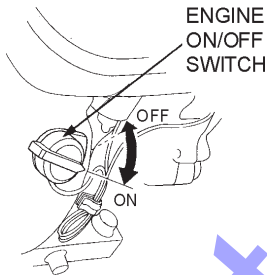

Figure 12. Engine ON/OFF Switch
2. Place the **Engine ON/OFF switch** (Figure 12) in the "ON" position.
- If the engine has started, slowly return the choke lever (Figure 12) to the **CLOSED** position. If the engine has not started, repeat steps 1 through 5.
- Place the **engine ON/OFF switch** (Figure 12) in the **"OFF"** position.